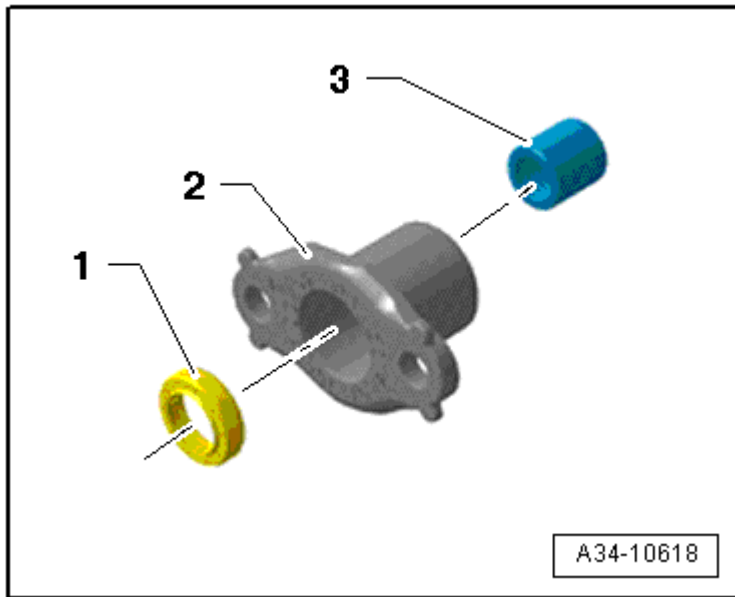

Fig. 63: Gearshift Shaft Cover Assembly Overview
- Assembly Overview **Fig. 63**